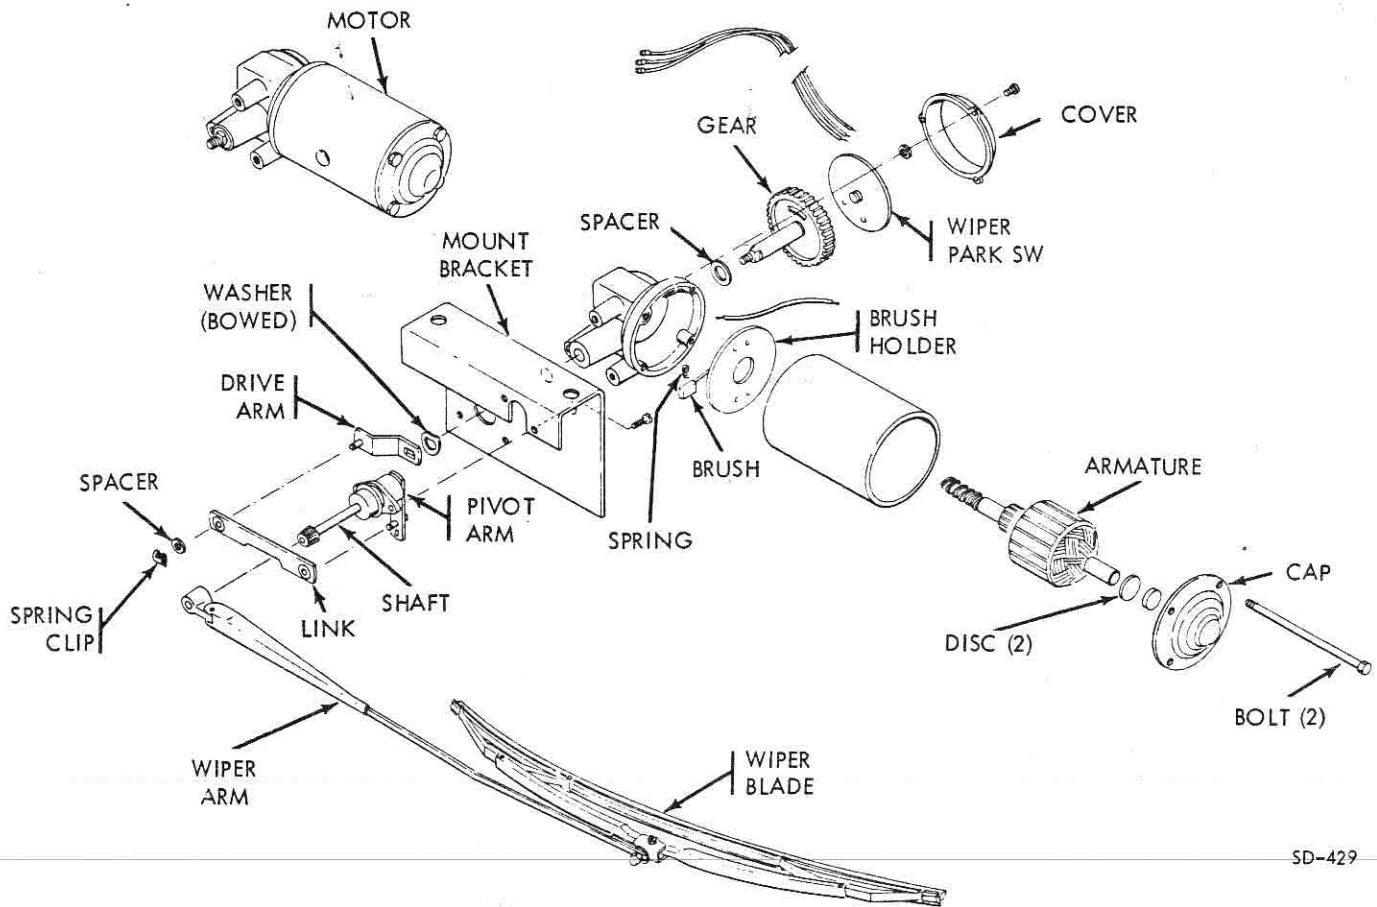

Figure 4-12. Windshield Wiper Motor, Arm, and Blade
(5) Windshield Wiper and Washer Assemblies (fig. 4-12). The coach incorporates individually controlled left hand and right hand wind-